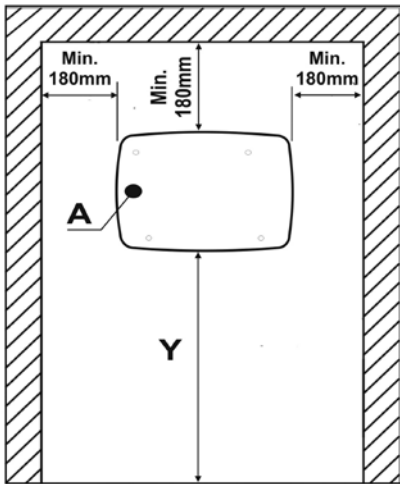

Fig. 2
- (Figure 2) Ensure that the installation site respects the minimum clearances indicated. We recommend you vary the height at which you install the appliance depending on whether it is to be installed for use by men or women.
- Using the template supplied with the appliance, mark the position of the 4 holes taking into account the position of the holes for the electrical cables and respecting the minimum distances (Figure 2-A).